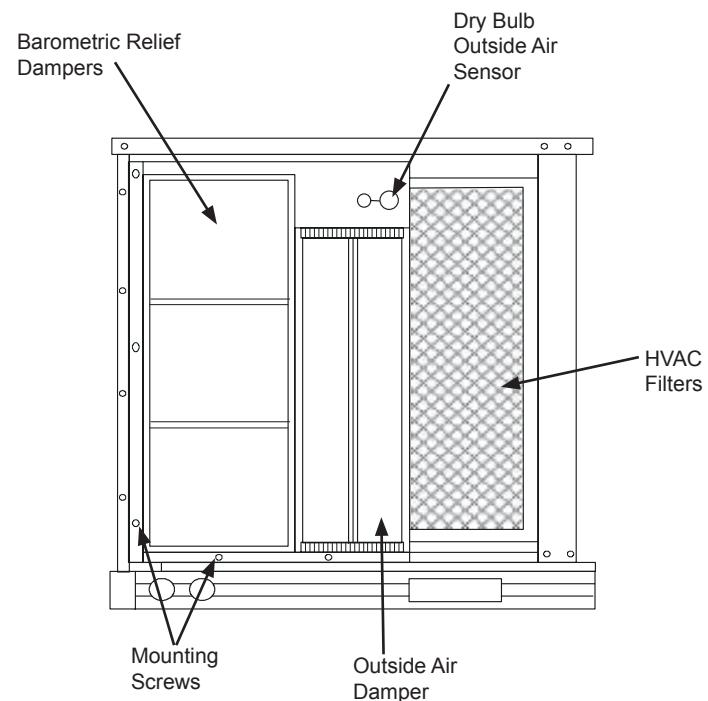

Fig. 6 - EconoMi\$er2 Installed in Unit
8. Secure the EconoMi\$er2 mounting flanges to the HVAC unit with the screws provided. (See Fig. 6.)